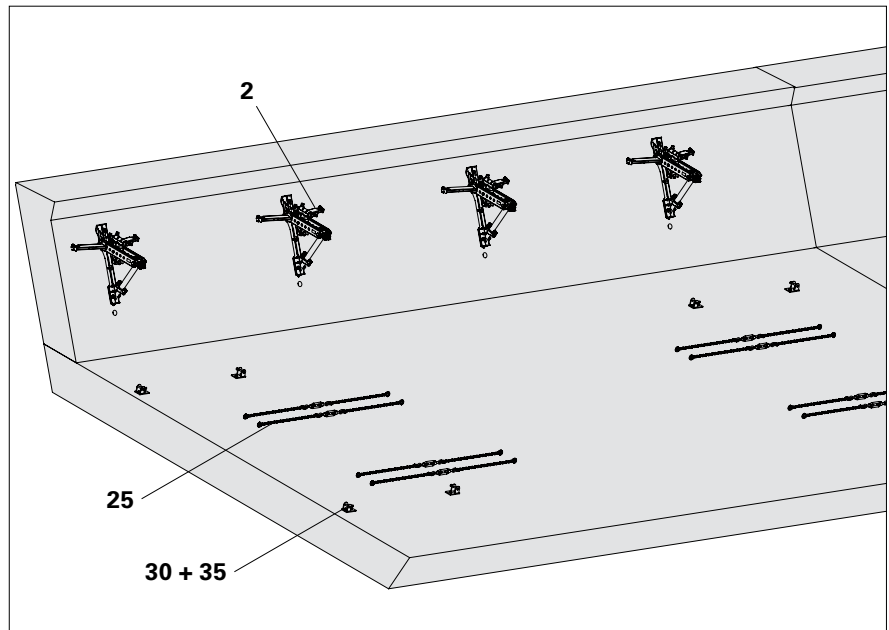

Fig. B7.01
2. Remove tensioning chains (25) and prepare for new concreting section.
3. Mount Base Plates-3 (30) for the tensioning chains in the new concreting section.
5. Raise all Roller Dropheads (2) in the new concreting section. (Fig. B7.01)